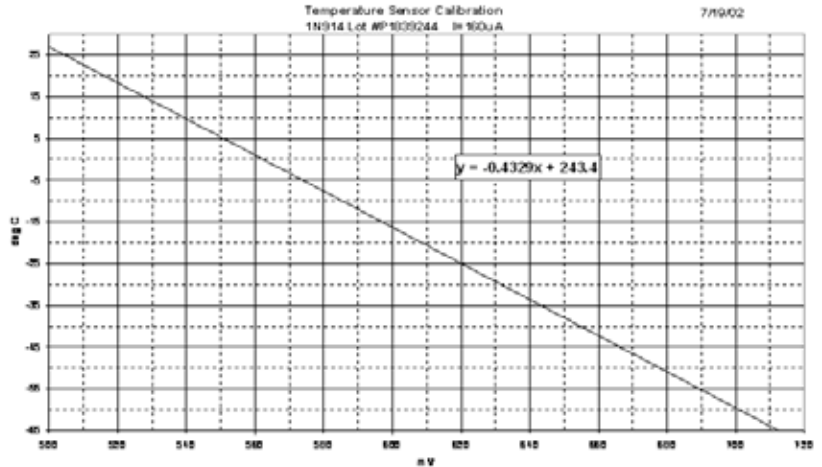

Figure 3. Temperature diode calibration curve for $I = 160 \mu\text{A}$.
- The 27.4K (R19) resistor can be external to the PA210/PA230, or on the board. It will supply 160 μ A to the diode. See Figure 3 for conversion of mV to temperature for this current.